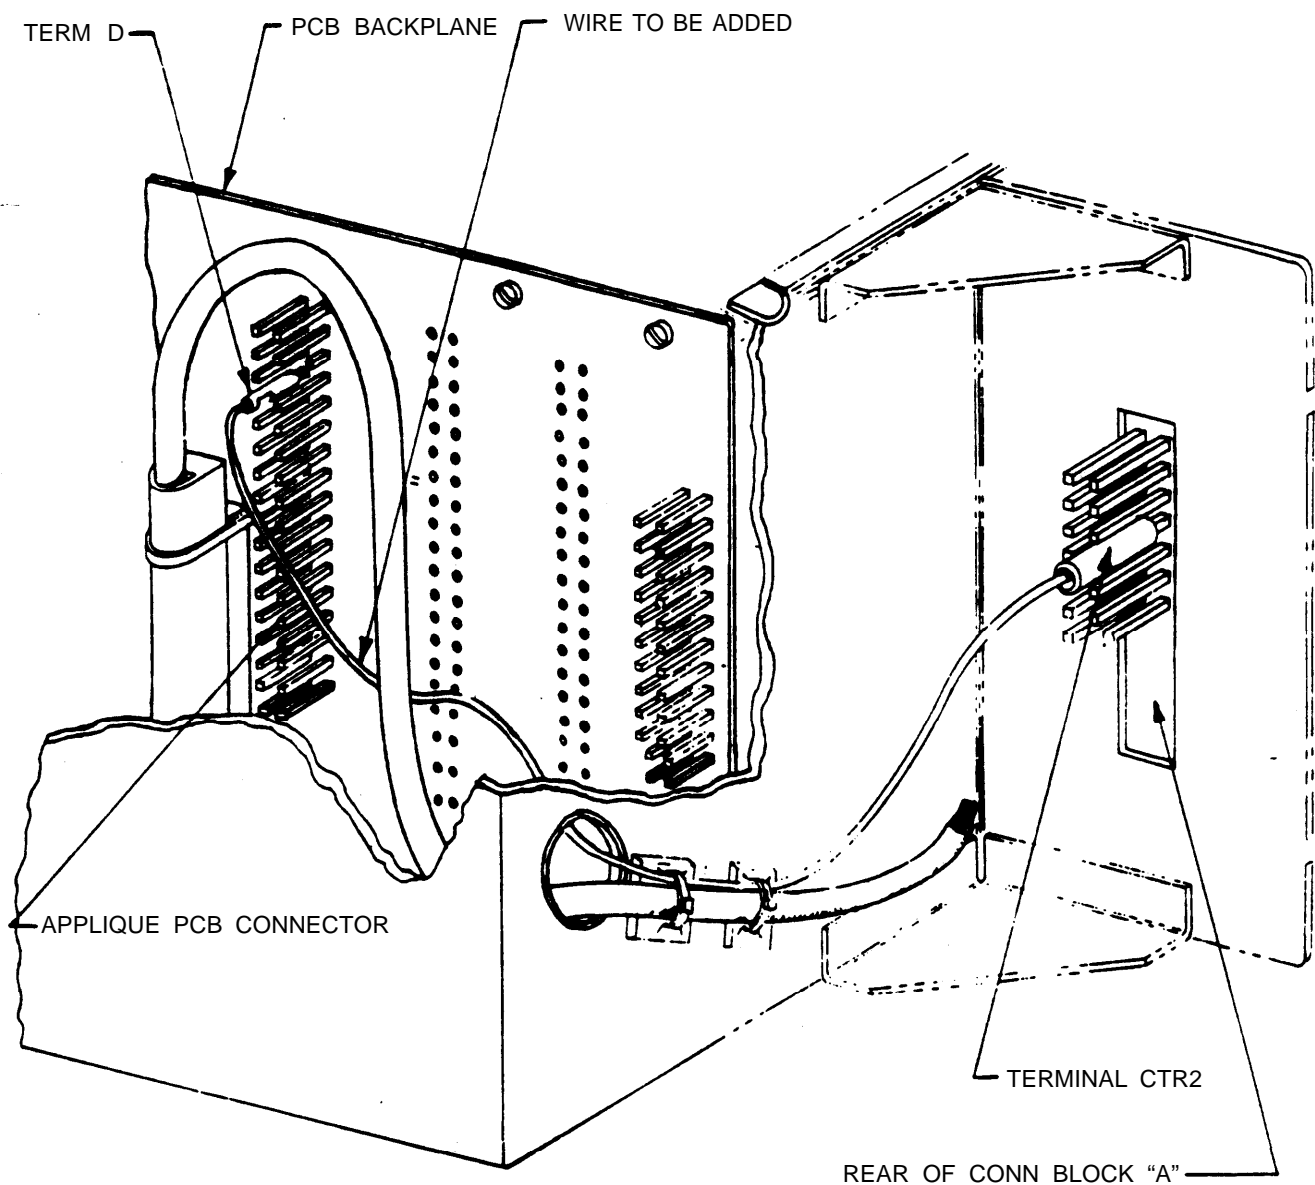

Fig. 28—Cutaway Rear View Showing Wiring Modification
- (5) Run the jumper wire through the cable ties and through the hole in the side of the cabinet as shown in Fig. 28.
- (6) Pull the card file straight out until it clears the cabinet. Support it with one hand while working with the other.
- (7) Connect the free end of the jumper wire to the back of the PCB connector at terminal D, in accordance with Fig. 28.
- (8) Place the card file back into the cabinet and replace the screws.